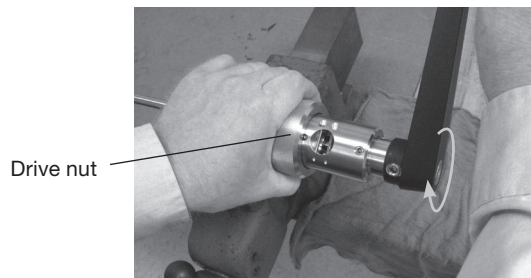

Fig. 24 Turning the handle and advancing the drive nut
18. Cone the end of the tube by continuing to turn the handle and slowly advance the drive nut clockwise until the coning tool bottoms out by contacting the manual adapter. (Fig. 24)